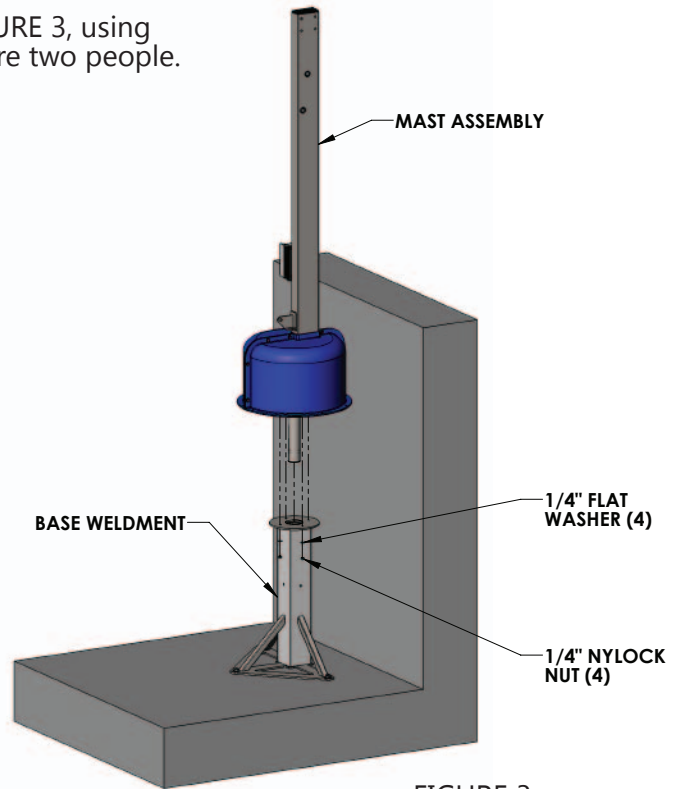

FIGURE 3
2. Attach the mast assembly to the base, as shown in FIGURE 3, using the 1/4 inch nylock nuts and flat washers. This may require two people.